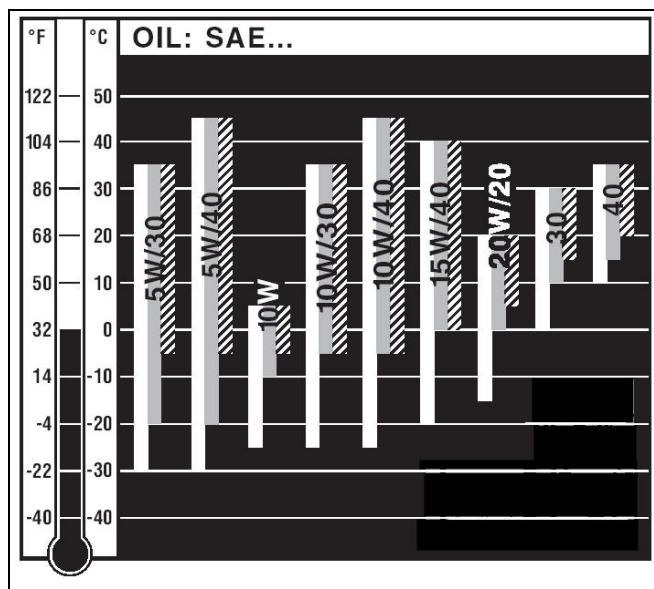

Fig 3-9 Oil SAE grades
6. If necessary, top up the oil (see Fig 3-9). Do not overfill.
8. Refill the sump with oil of the correct grade for the conditions (Fig 3-9) to the correct level, as indicated on the dipstick.